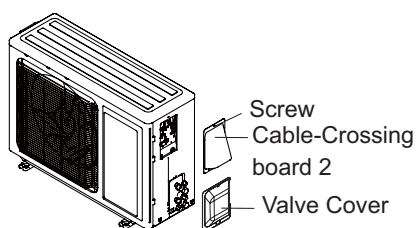

Fig.21
- (1) Remove the screw on the cable-crossing board 2 and valve cover of outdoor unit and then remove the cable-crossing board 2 and valve cover .(As show in Fig.21)